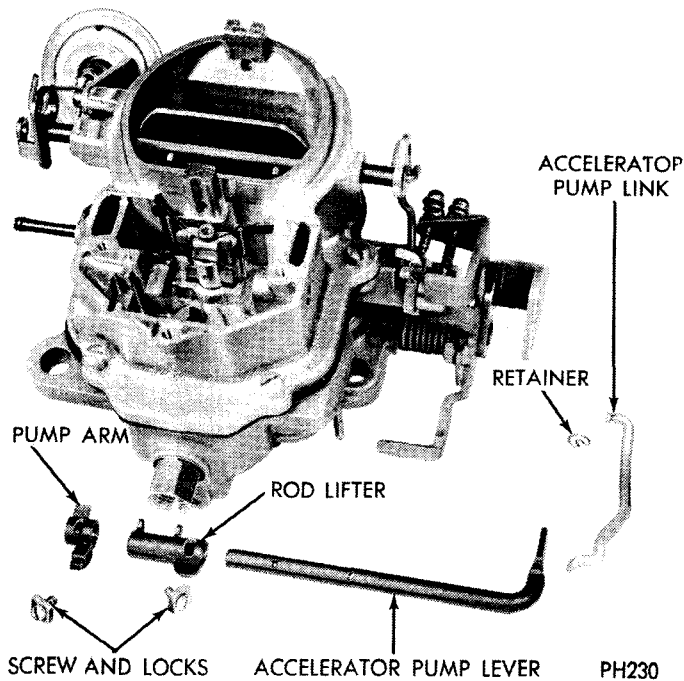
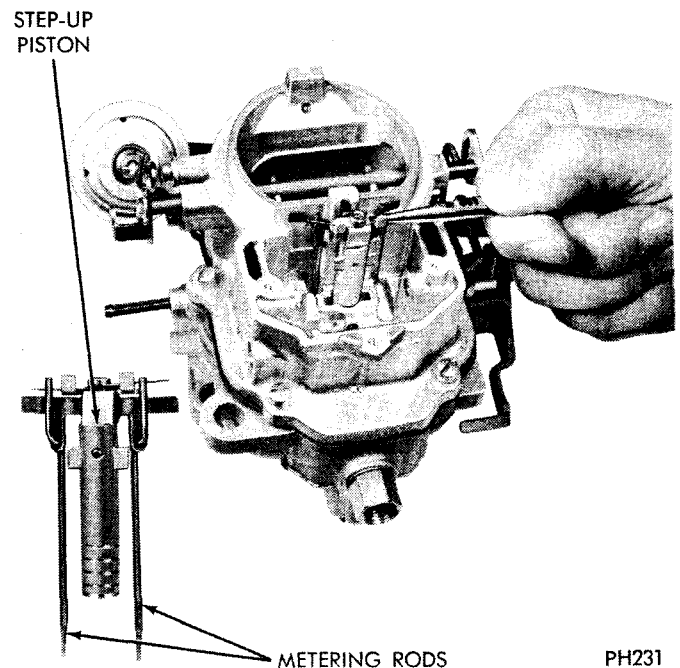

Fig. 9—Removing or Installing Accelerator Pump Lever
Fig. 10—Removing or Installing Step-Up Piston Assembly
(5) Remove the screws and locks from the accelerator pump arm and the vacuum piston rod lifter. Then slide the pump lever out of the air horn. (Fig. 9). The vacuum piston and step-up rods can now be lifted straight up and out of the air horn as an assembly (Fig. 10).
(6) Remove vacuum hose from between carburetor main body and choke vacuum diaphragm.
(7) Remove choke diaphragm, linkage and bracket assembly and place to one side to be cleaned as a sep-